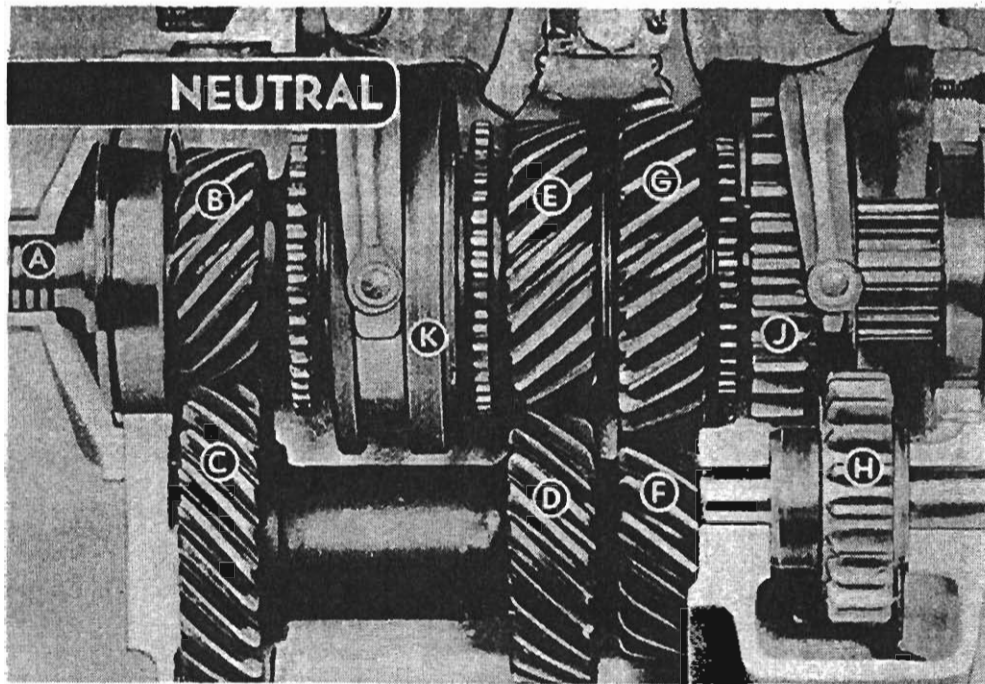

Fig. 40—The Transmission in Neutral.
When the engine is running, with the clutch engaged and the transmission in neutral, the clutch shaft (A, figure 40) is turning over at the same r.p.m. as the engine flywheel as, in fact, it will regardless of the gear position selected. Since the clutch shaft gear (B) is in constant mesh with its mating gear (C) on the countershaft gear cluster, the cluster also turns at this time but, as the mating gear on the cluster is the larger of the two, the r.p.m. of the cluster is always *lower* than that of the clutch shaft. The middle helical gear (D) on the countershaft is in constant mesh with the second speed gear (E) on the driving shaft, the last helical gear (F) is in constant mesh with the first speed gear (G) on the driving shaft, and the spur gear (H) is constantly in mesh with the reverse idler pinion. Thus, *with the exception of the*